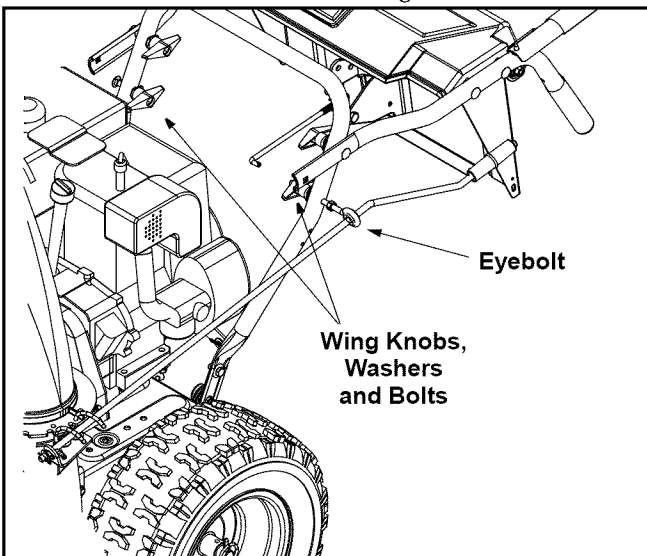
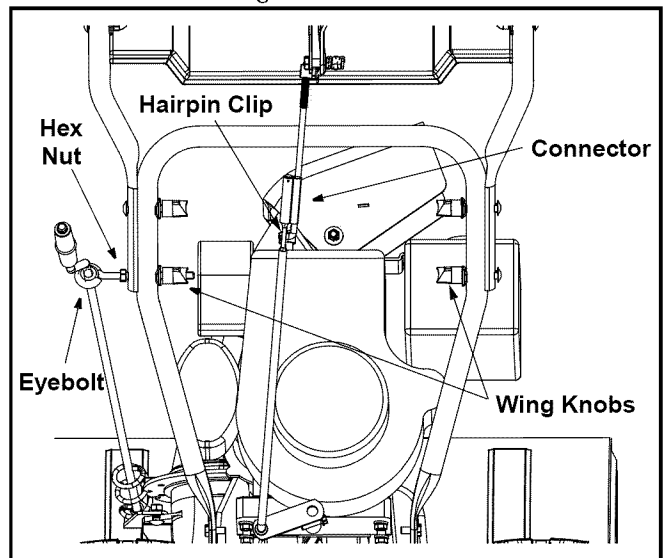

Figure 2
Figure 3
- Remove the **lower** two plastic wing knobs, cupped washers and carriage bolt (eyebolt on the left side) from the lower handle. See Figure 2.
- Raise the upper handle assembly until it locks over the lower handle. See Figure 2 and Figure 3.
- Secure the upper handle and lower handle with the two plastic wing knobs, cupped washers and carriage bolt (eyebolt on the left side) previously removed. See Figure 3.
- Slide the connector down over the end of the lower shift rod. See Figure 3. Tap the connector until it **locks** on the lower shift rod.